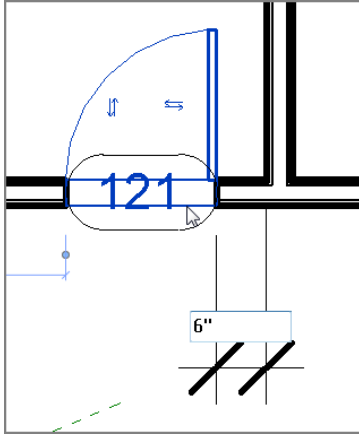

FIGURE 5.39: Making adjustments with the actual dimension
4. Select the door shown in Figure 5.39. The dimension turns small and blue: it's ready to be modified.